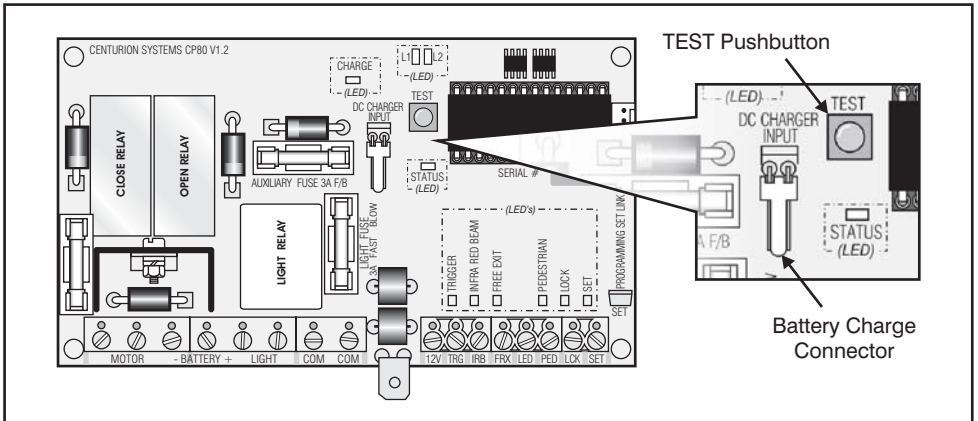

Figure 23 CP80 Test Pushbutton and Battery Connector Locations
2. Remove ALL power from the controller, i.e. charger plug and battery Figure 23.
Immediately after reconnecting the power, the STATUS light will flash 5 times. The SET and L2 lights will be on, L1 must be off to indicate you are now in programming mode. See Figure 23 and 24. (🔧 See Setup troubleshooting Guide, page 33, step 4)
8. To set the gate limits **press and hold** the TEST button while monitoring LED L1 (see Figure 23).
17. **Fit the SET link** to the SET pins as shown in figure 23 on page 25.